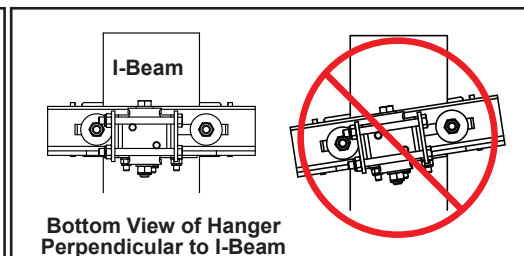

Figure 3-56B
Step 7. Ensure I-beam bracket is perpendicular to I-beam lower flange. See Figure 3-56B below.